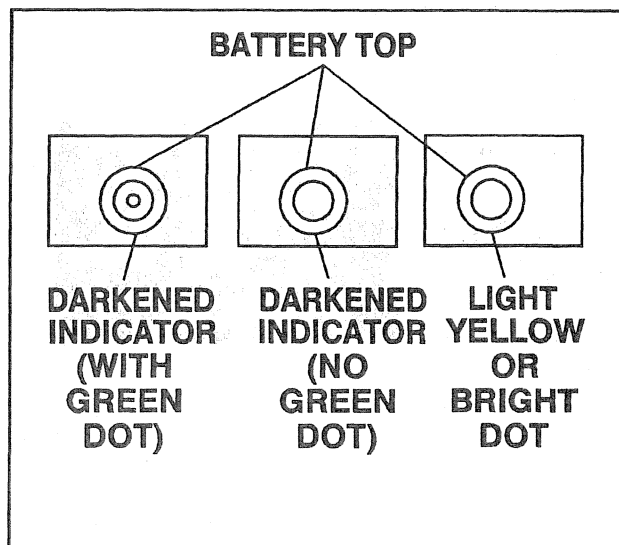

Figure 4—Built-In Hydrometer
Molded into the top of the maintenance-free battery is a built-in temperature compensated hydrometer (figure 4). Use this hydrometer with the following diagnostic procedure.
2. HYDROMETER CHECK (figure 4)